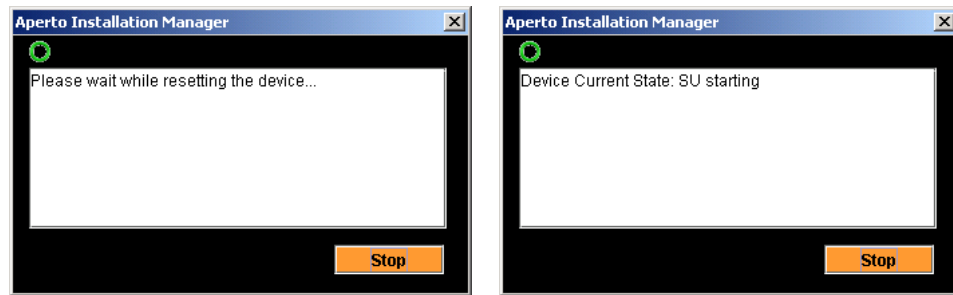

Figure 5-9 Restart Status Windows
16. After you click **Next>>** in the Configuration Window (and specify a new password is necessary), the AIM will send the configuration choices to the PacketWave 200, then reset the device. The status windows shown in *Figure 5-9* will be displayed, the one on the left first followed by the one on the right.